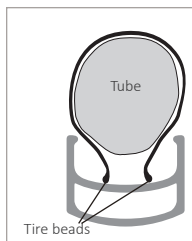

FIGURE 3.39
2. Squeeze the tire beads into the bottom of the rim well (Figure 3.39). Do this all the way around the wheel.